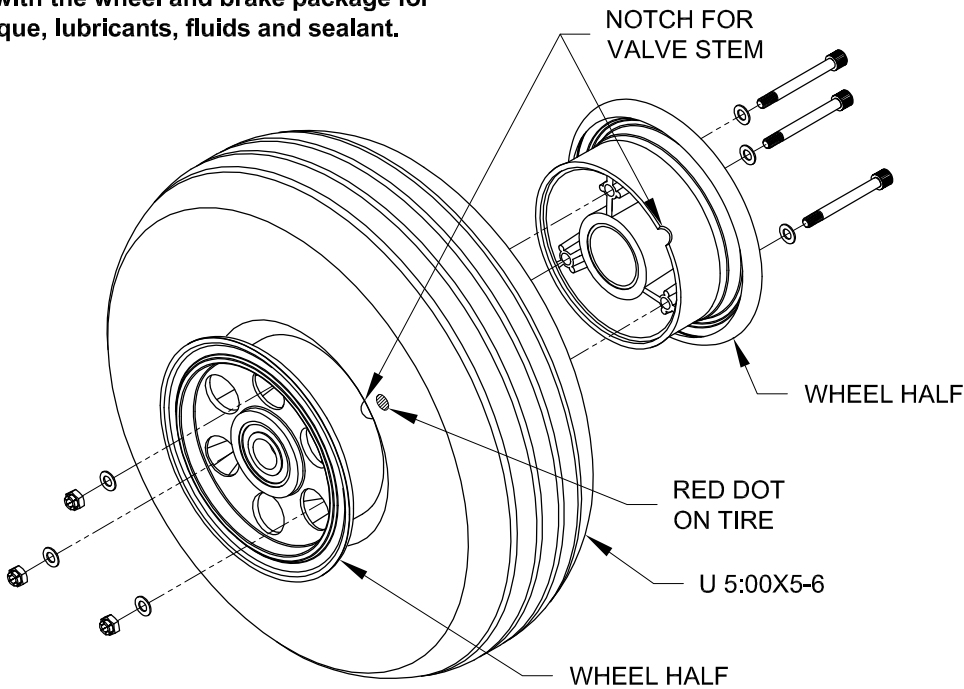

FIGURE 2: NOSE WHEEL AND TIRE ASSEMBLY
Step 4: Remove the nut and washers from the valve stem of the U 5:00X5-6IT Tube (not shown in Figure 2). Dust the tube and the inside of the U 5:00X5-6 Tire with talcum powder. The notch on the wheel half should be aligned with the notch for the valve stem in the opposite wheel half. The red dot on the tire is installed next to the valve stem. Bolt the wheel halves together, taking care that the tube is not pinched between the wheel halves.